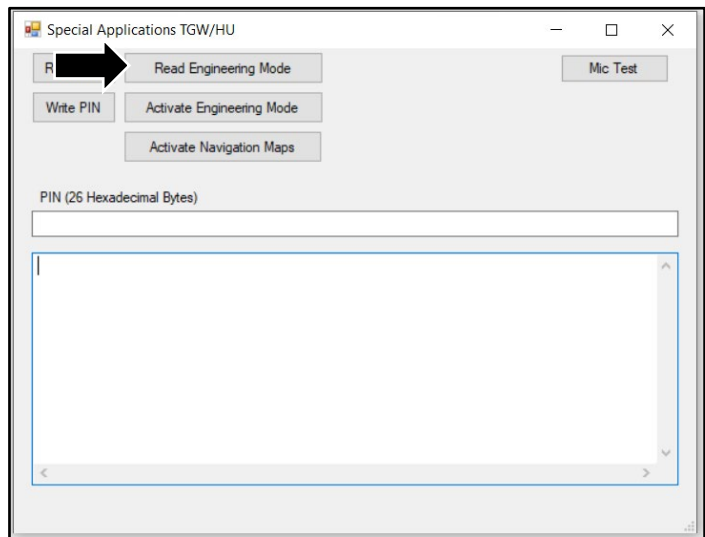

Figure 15
- 27. Select 'Read Engineering Mode' (refer to Figure 15).